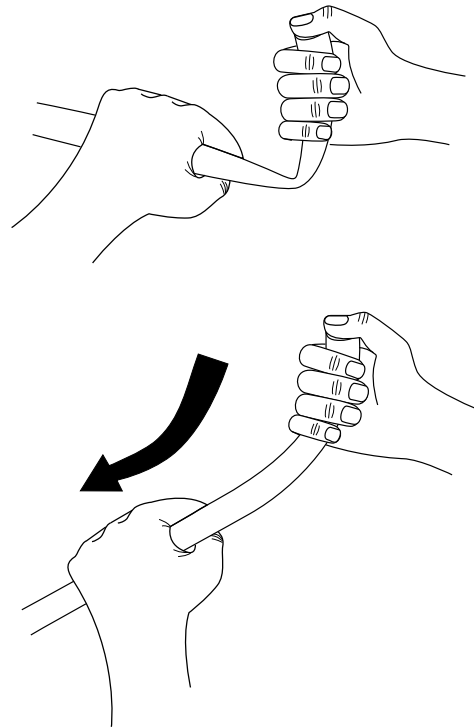

Figure 22 - "Force Feeding" the pump
16. Trash caught in valves	16. See figure 22 at the end of this section
To remove trash that has been caught in the valves, the unit can be force fed. With pump on and prime/spray knob turned to "prime" position, pour the appropriate solvent into the suction tube and then fold hose as shown below. While firmly squeezing the suction tube, slide hand down toward the pump and repeat until pump primes. (See Figure 22).